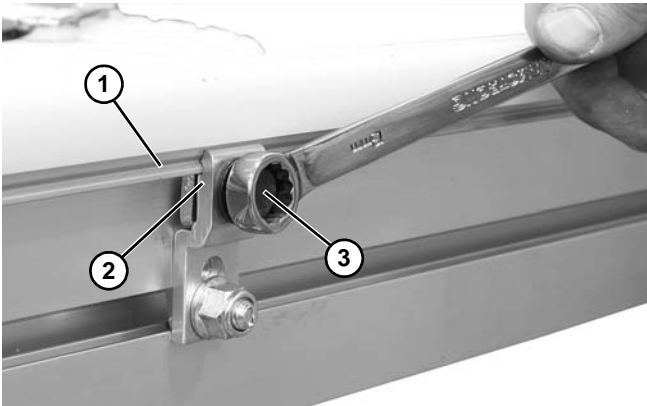

Figure 78
- Attach guiding (Figure 78, item 1) to clip (Figure 78, item 2) and tighten screw (Figure 78, item 3).